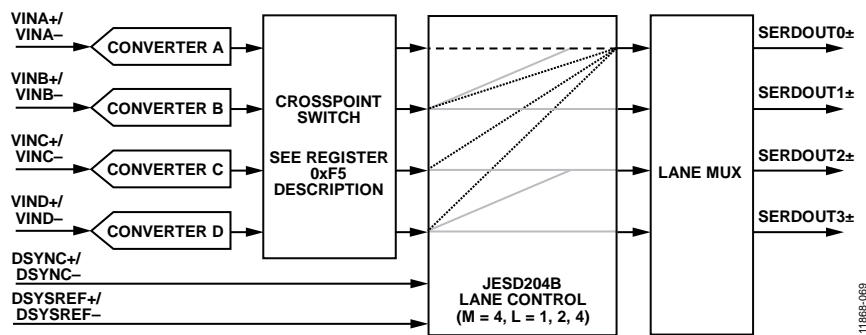

Figure 64. AD9656 Transmit Link Simplified Block Diagram
- Option to remap converter (logical lane) and SERDOU_{x±} (physical lane) assignments: Register 0x82 and Register 0x83. See Figure 64 for a simplified block diagram.